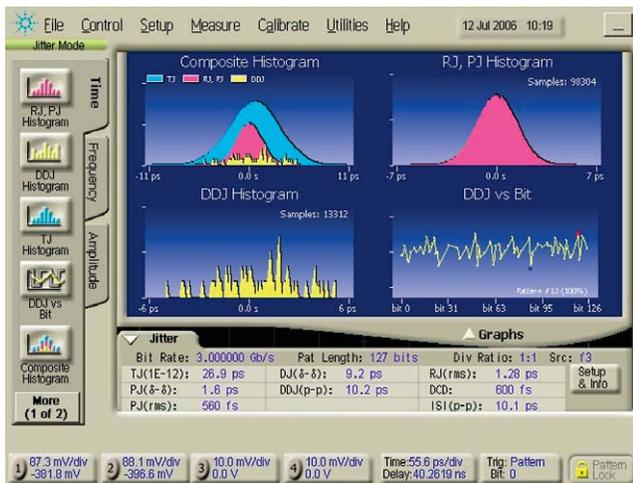

Figure 9. Inter-Symbol Interference
- 1 Press the Jitter button. The 86100C DCA-J will determine the data rate and clock rate and the jitter shade will drop displaying jitter graphs and the jitter data table. See Figure 9.
- 2 From the table record the value for ISI. See Figure 9.